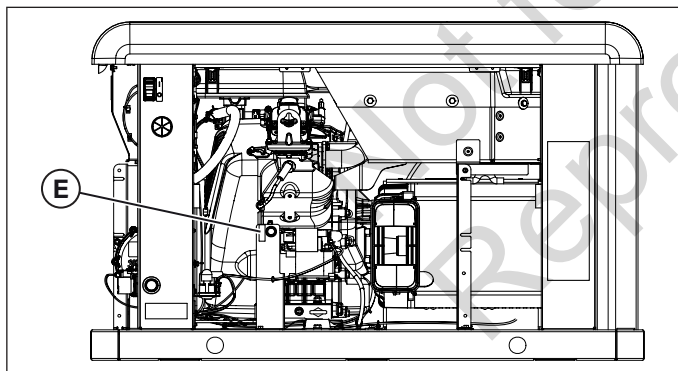

Figure 13
10. Find the fuel selector switch (**E**) in the engine compartment. See Figure 13.